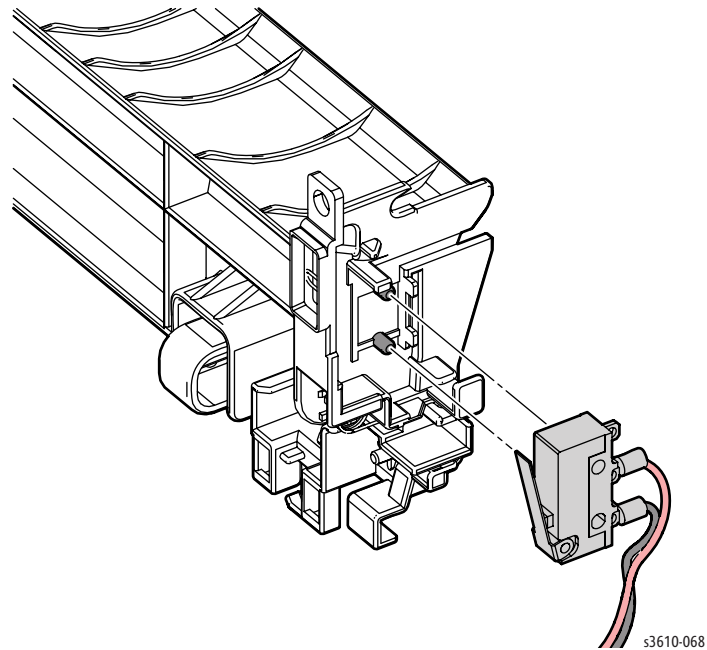

Figure 3
5. Remove the Rear Interlock Switch from the Interlock Switch Assembly. (Figure 3)